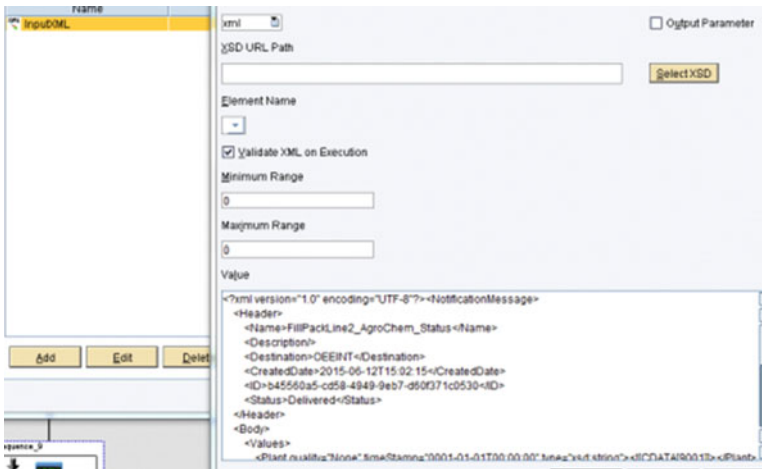

Figure 7-18. SAP MII custom transaction: shop-floor data collection
1. Create a BLS transaction in SAP MII workbench to receive the data from SAP PCo and report to SAP OEE. In this example, we will see how to report machine downtime. Add an XML parameter in the BLS transaction input property to receive the SAP PCo notification XML. Refer to Figure 7-18.